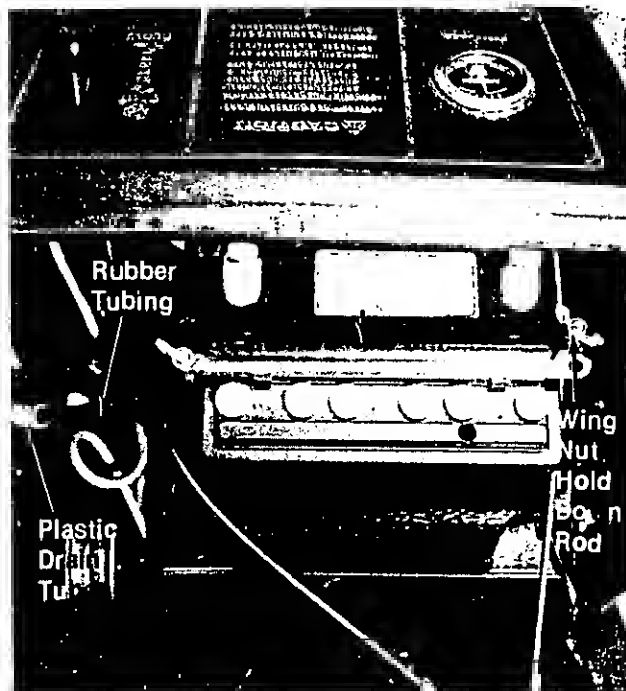

FIGURE 2.
- Hook the hold down rods through the holes in the battery case and place the hold down over the manifold of the battery and the two hold down rods. (See figure 2.)